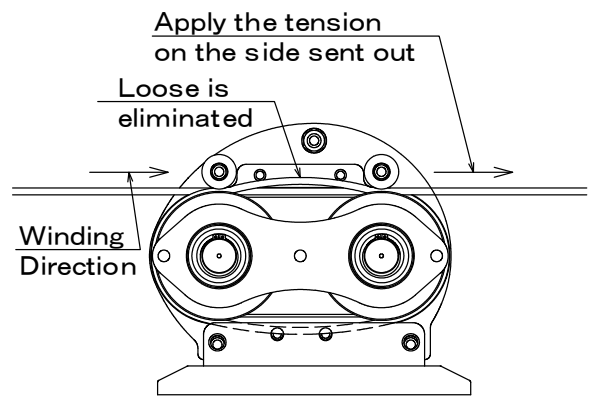

Figure 8-1 If the endless method is not used
b. When using the wire rope in a method other than the endless method, constantly pull the outgoing wire rope and apply tension. (Refer to Figure 8-1)